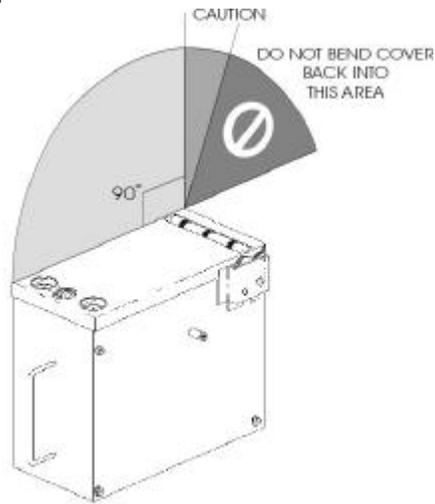

Figure 3-4
Refer to Figure 3-4. Open the stacker cover by lifting the front edge only until the cover is perpendicular to the top of the stacker. Mishandling of the stacker cover can cause permanent damage to the cover and hinge. When opening the cassette stacker:
- **DO NOT** force the cover back into the areas of dark shading in Figure 3-4.